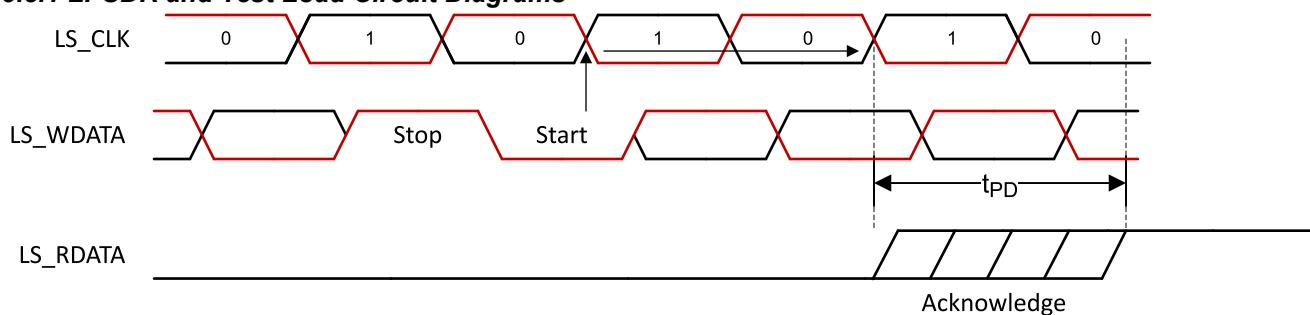
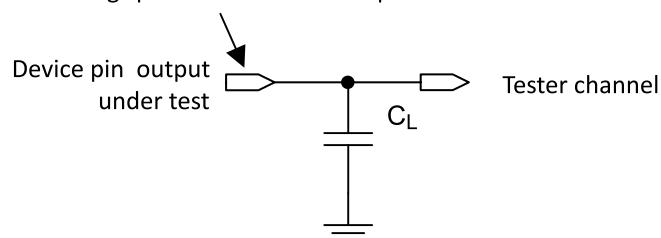

图 5-10. LPDDR Read Out
图 5-11. Test Load Circuit for Output Propagation Measurement
(1) Device electrical characteristics are over *Recommended Operating Conditions* unless otherwise noted.
(2) See 图 5-10 and 图 5-11.